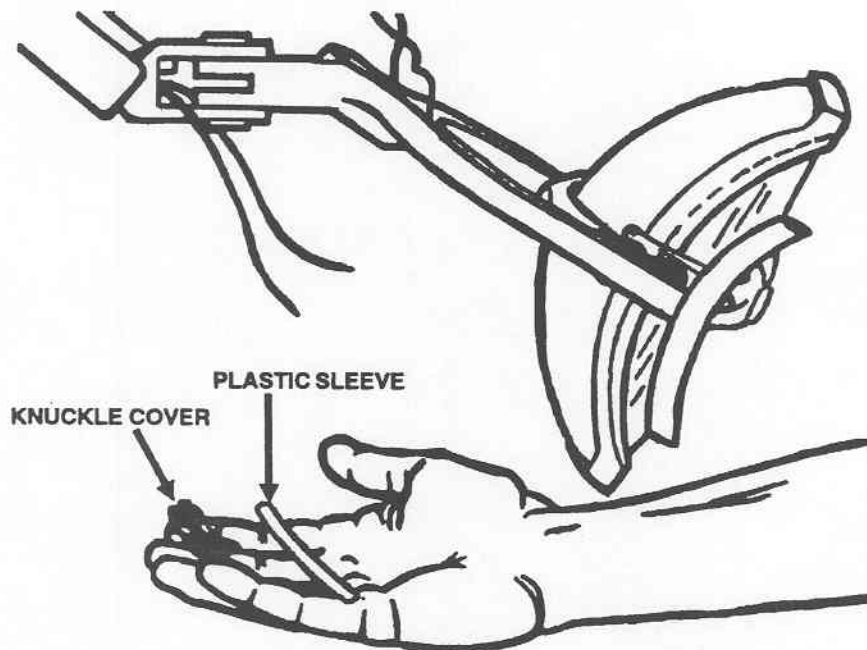

Figure 3-11. Mechanical disassembly.
- (4) Remove the knuckle cover, pull the electrical wires back through the slot, and remove the plastic sleeve (fig 3-11).